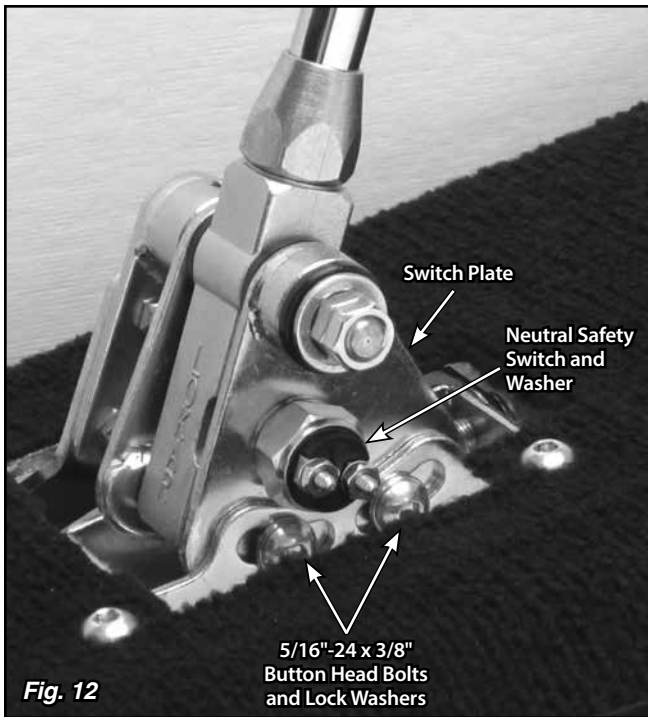

Fig. 12
Step 17: Remove the neutral safety switch and washer (Fig. 12) from the passenger side of the shifter using a 7/8" wrench or socket.
Step 18: Loosen, but do not remove, the two 5/16"-24 x 3/8" button head bolts and lock washers that attach the **passenger side** of the floor mount mounting bracket to the switch plate (the bolts are in curved, slotted holes). Fig. 12